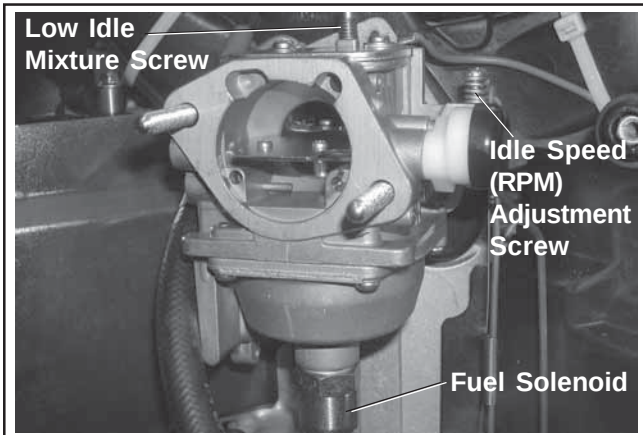

Figure 15. Carburetor.
In compliance with government emission standards, the carburetor is calibrated to deliver the correct fuel-to-air mixture to the engine under all operating conditions. The high speed mixture is set at the factory and cannot be adjusted. The low idle fuel adjustment screw (if equipped) is also set at the factory and normally does not require adjustment. See Figure 15.
1. **Idle Fuel Adjustment:** with the engine stopped, turn the low idle fuel adjusting screw in (clockwise) until it bottoms lightly. See Figures 15 and 16.